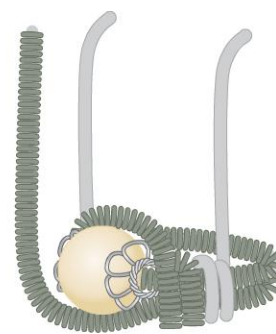

figure 5
- 9 Grasp the ring in your nondominant hand, holding it on one side of the bead cap. Grasp the free 18-gauge wire end and wrap it around the ring shank four times, next to the bead cap (Figure 5).